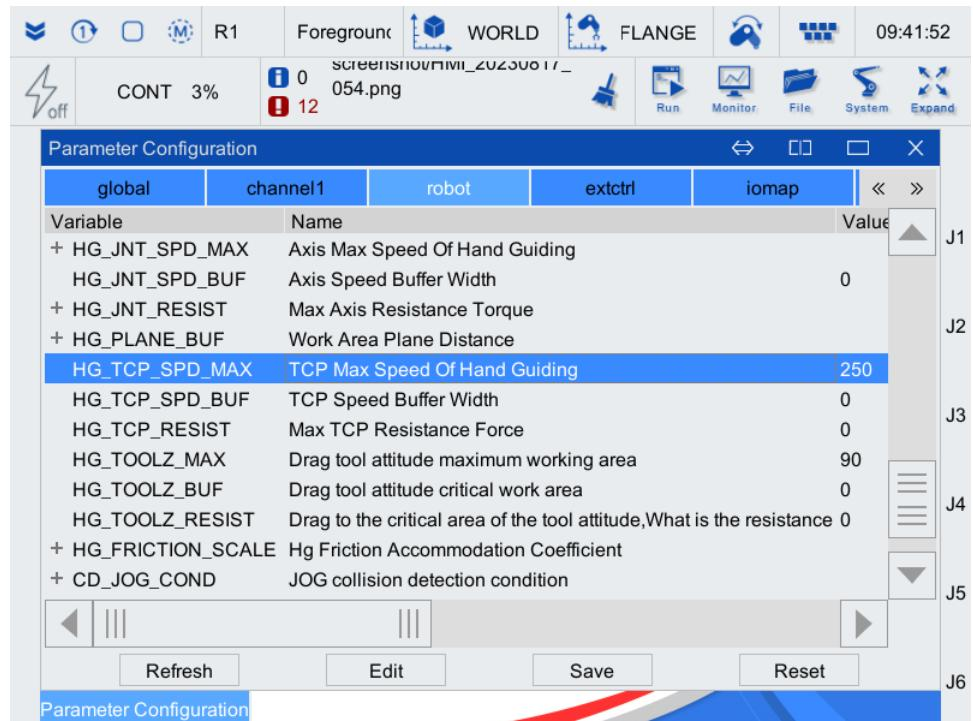

Figure 5-41 Parameter configuration interface
Step3. Enter the parameter configuration interface, select the [robot] tab, as shown in Figure 5-41, click to select the [HG_TCP_SPD_MAX] parameter in the row, and click <Edit>.